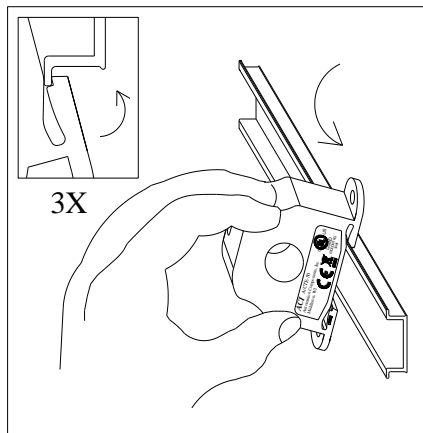

Figure 1: Sensor Placed on Rail
The A/CTE & A/CTV Series Analog Current Sensors should be used on **Insulated Conductors Only!** The current sensors may be mounted in any position using the (2) #8 x 3/4" Tek screws and the mounting holes in the base or snapped directly on to the 35mm DIN rail (See Figures 1 & 2 below). Leave a minimum distance of 1" (3 cm) between the current sensor and any other magnetic devices such as contactors and transformers.